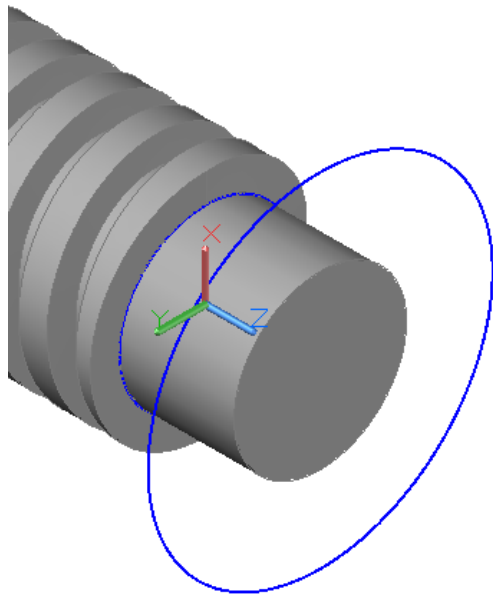

Figure Step 20A
Step 20 On layer: Pline, draw a 1.5 inch diameter circle locating its center at the end of the extrusion that you created in Step 19. On layer: Solid 8, extrude the circle 1 inch in the positive Z direction. (Figure Step 20A and 20B)